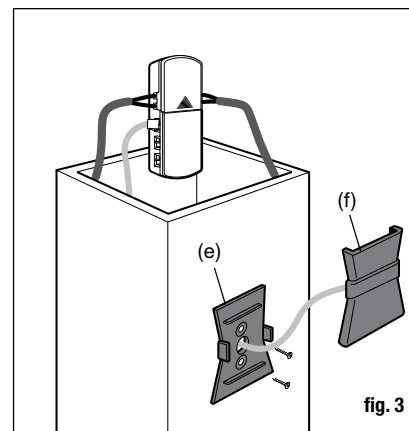

fig. 3
3. Drill a 5/16" hole directly in between the two holes for the wire. Run the wire from the sconce cover (f) through the hole in the post to the junction box (fig. 3).